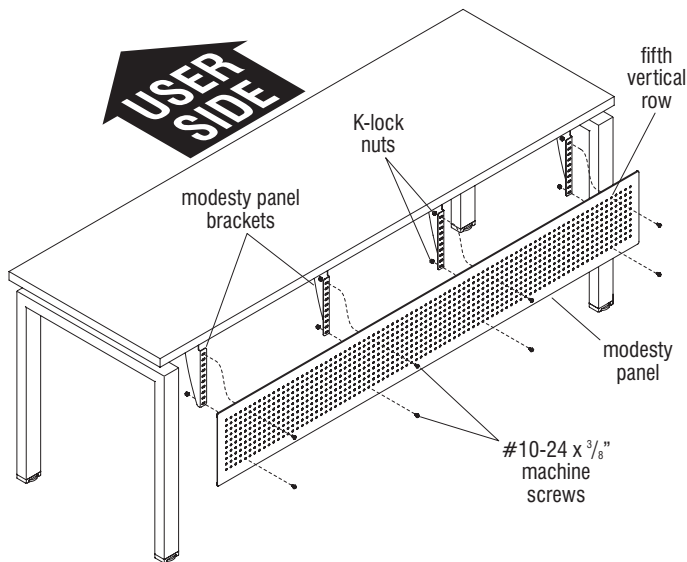

Figure 1 - Single-Sided Fixed Benching - Modesty Panel Installation
1. Carefully position the modesty panel up to the modesty panel brackets, and align the fifth vertical row of holes (third vertical row if assembling on wood leg desk) on each end of the modesty panel with the mounting holes of the outside modesty panel brackets. Take care to also align the appropriate top and bottom mounting holes of the modesty panel with the corresponding holes in the modesty panel brackets (Figures 1 & 2).
2. Using #10-24 x 3/8" machine screws in the front and K-lock nuts at the rear, secure modesty panel to the modesty panel brackets. Only the top and bottom mounting holes of each modesty panel bracket need be used for attaching the panel to each bracket. Take care to push upward on the bottom of the modesty panel while tightening the screws, so the unused holes in the modesty panel align with the slots in the bracket for a clean finished look (Figures 1 & 2).